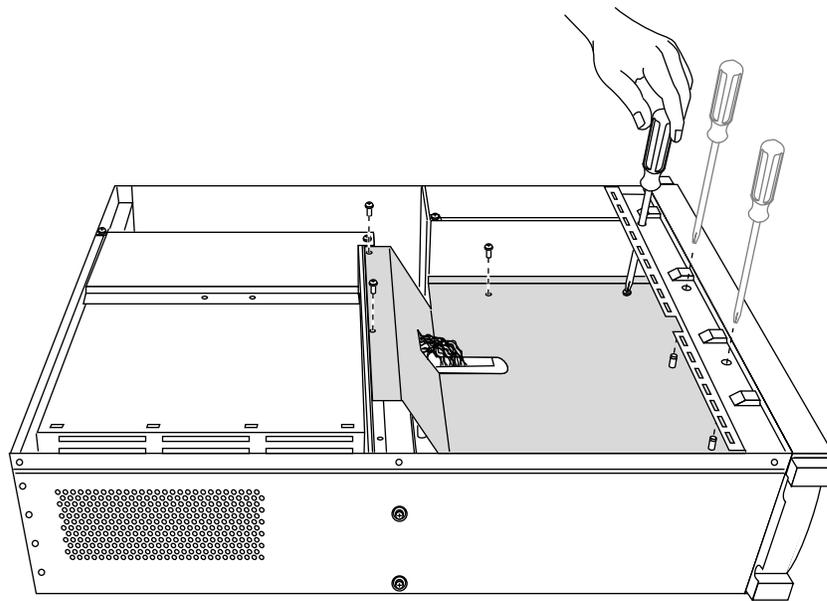

Figure 5-35 Removing the Power Supply Shroud Screws
4. Remove the power-supply shroud screws, as shown in Figure 5-35.